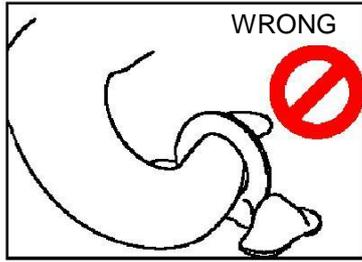

Figure 1
- ⌘ Attach lifting device ensuring free movement of weld-on lifting point bail (Figure 1).